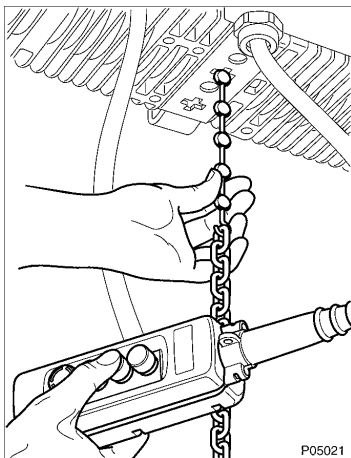

Figure 5.6
1. Attach last link of chain onto hook of CHAIN INSERTION TOOL (item 1, Figure 5.6).
1. If the chain insertion tool is not in the hoist (removal procedure), attach last link of chain onto hook of CHAIN INSERTION TOOL (item 1, Figure 5.6).